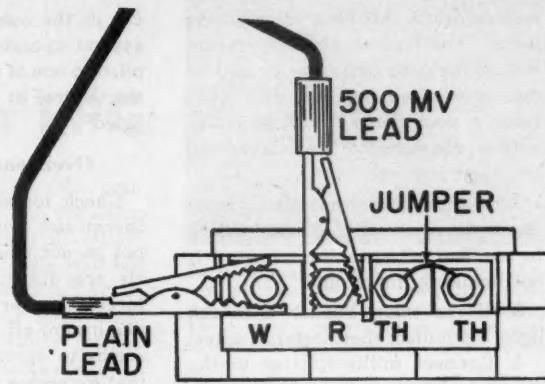

Fig. 7. Millivoltmeter connected. Jumper thermostat terminal at valve.
4. Connect millivoltmeter to the red and white terminals as shown in Fig. 7. Jumper thermostat terminal at valve.
Disconnect wiring at the safety valve terminals on the control valve and hold open while running steps 5 and 6. Be careful not to allow the plunger to close even momentarily. If this happens, the pilot will have to be re-lighted. Voltmeter connections should remain the same as in Fig. 7.